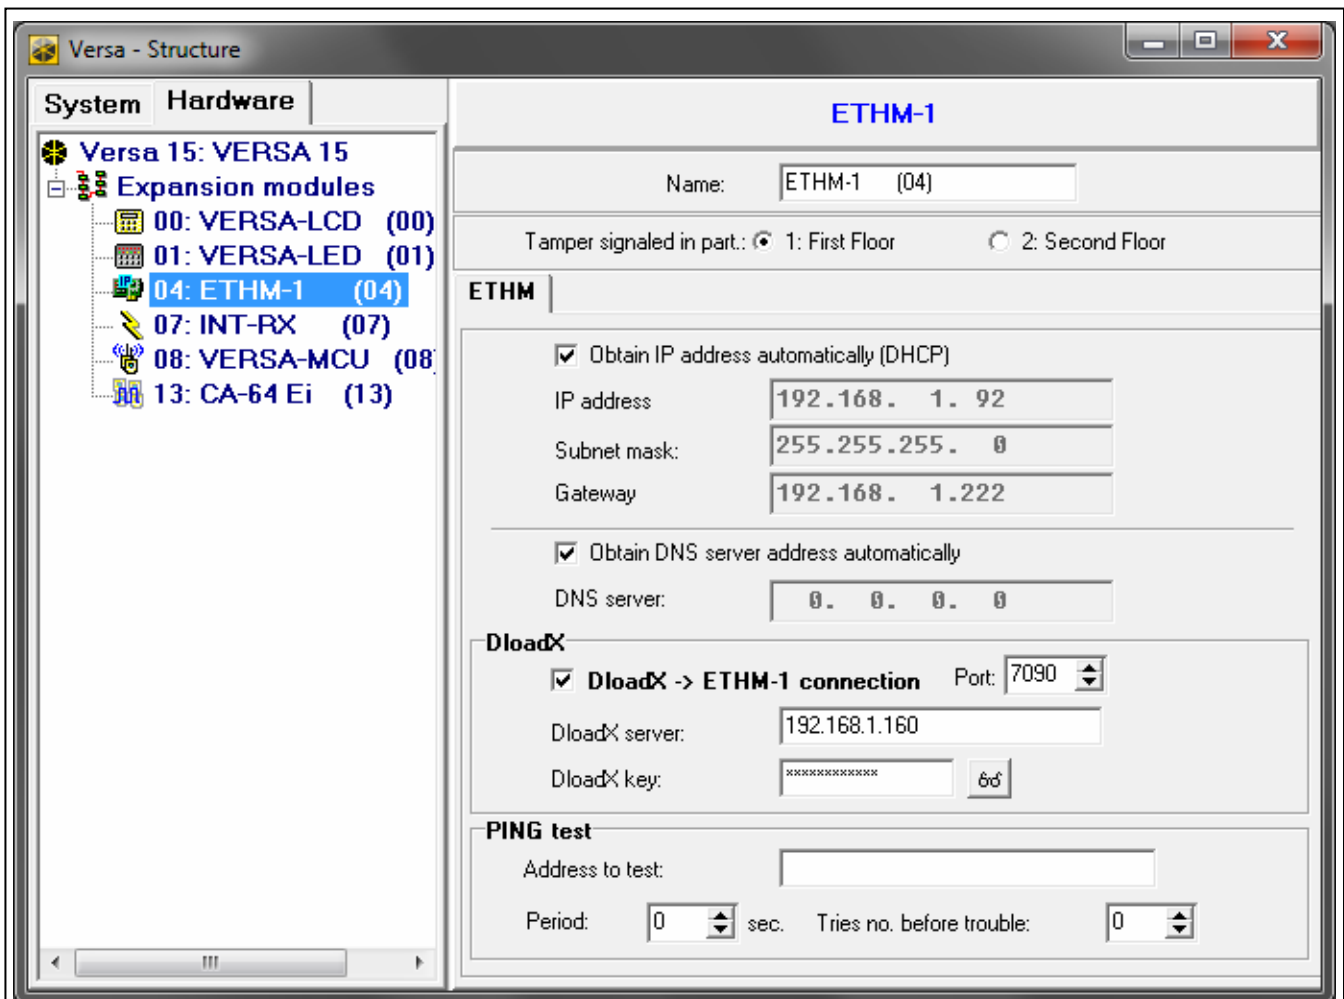

Fig. 6. DLOADX program: parameters and options of the ETHM-1 Plus module connected to VERSA control panel.
- DLOADX program: →"Versa – Structure" window →"Hardware" tab →"Expansion modules" branch →[*module name*] (Fig. 6).